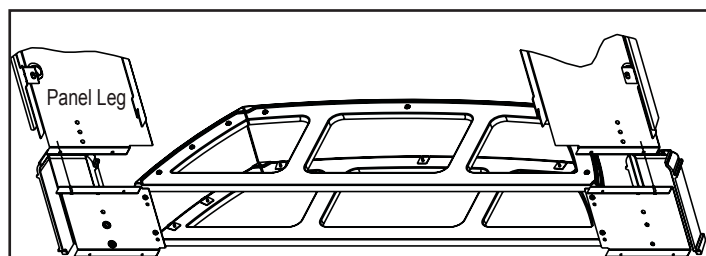

Figure 20.7
8. Place the assembled hearth support under the insert. Figure 20.7.